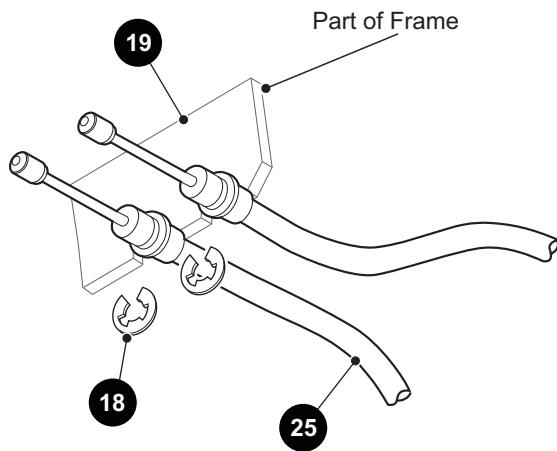

Figure 18 Cable Connection (Pedal End)
2. Remove the retaining rings (18) connecting the brake cables to the brackets (19) at both ends of the cable (25) (Ref. Figure 18).
6. Slide the equalizer link (30) of the new assembly over the compensator rod (26).
7. Loosely install the spherical nut (23) and new locking jam nut (24).
8. Insert the cables (20) into the brackets (19).
9. Install new retaining rings (18) (Ref. Figure 18).